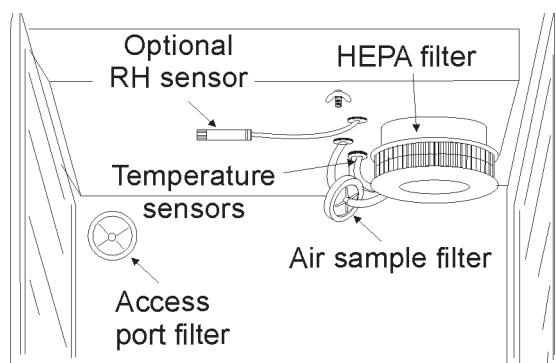

Figure 1-9. Filter and Sensor Locations
Locate the opening in the top left corner of the interior chamber. Remove the tape from the opening on the outside of the unit. Locate the stopper with filter in the hardware bag. Install in the opening inside the chamber. See Figure 1-9.
4. Insert the free end of the air sample filter tubing into the larger hole in the back of the blower scroll. See Figure 1-9 for completed configuration.
3. Install the filter as shown in Figure 1-9.